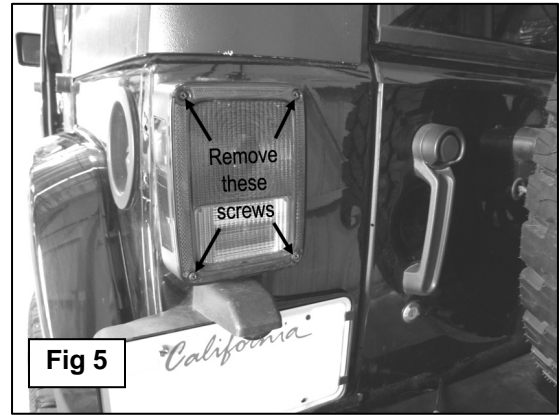

Fig 5
5. **OPTIONAL:** If you decide to bolt the Roof Rack directly to the body of the vehicle, remove both taillights from vehicle at this time, **(Figure 5)**. **NOTE: Drilling required for "Bolt Direct to Body" Installation. See Figures 14-On, Steps 18-On for detailed information.**